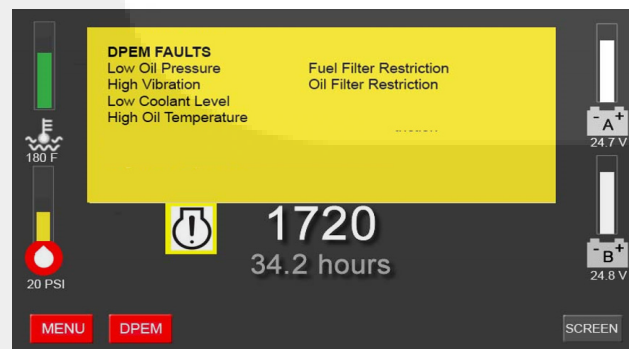

Figure 2-12 DPEM fault screen (sample)
- **From the FPDP** - As shown in Figure 2-12, the warning symbol will illuminate and the overlay will activate in yellow with the text of the active fault.